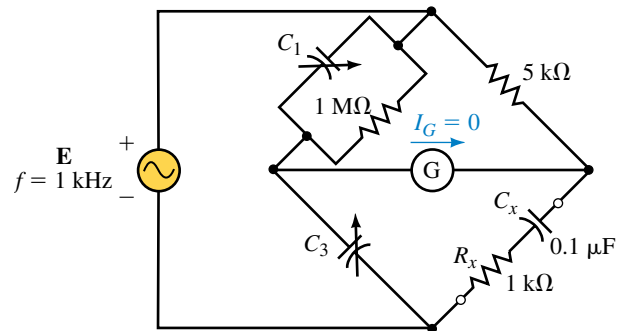

FIGURE 19-76
36. Determine the values of the unknown capacitors which will result in a balanced bridge for the circuit of Figure 19-76.